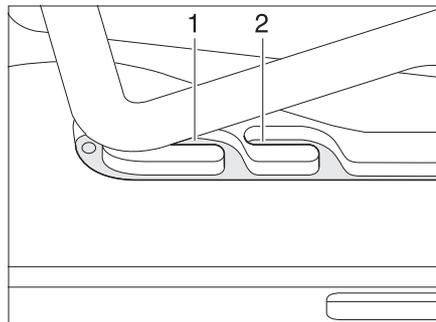
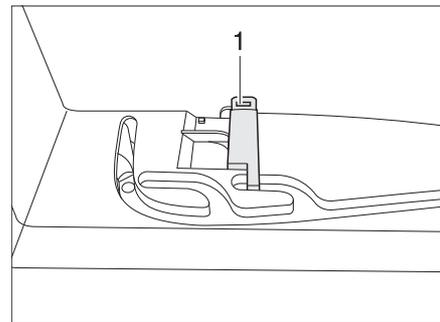

Fig. 46 Heki skylight in ventilation position
Fig. 47 Ventilation position locking mechanism
The Heki skylight can be put in two ventilation positions: Bad weather position (Fig. 46,1) and central position (Fig. 46,2). Depending on the model, the skylight can be locked in the central position with the latch (Fig. 47,1).
- Push the bar slightly upwards and into the selected guide (Fig. 46,1 or 2) and lock if necessary.